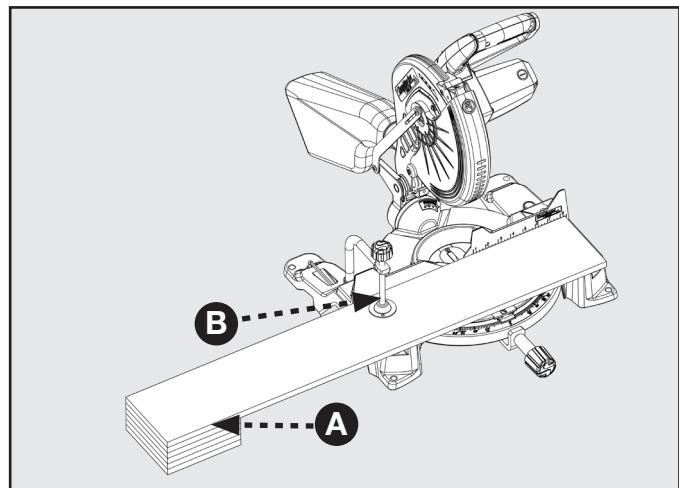

FIGURE 22
Long workpieces need extra support. Supports (A) should be placed along the workpiece so it does not sag. The support should let the workpiece lay flat on the base of the saw and work table during the cutting operation as shown in Figure 22. Use the optional work clamp or a C-clamp (B) to secure the workpiece to the mitre saw table.